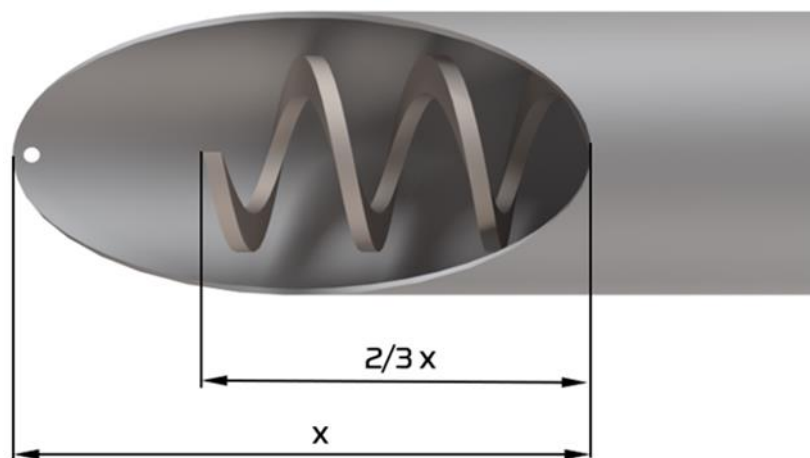

Fig. 6. Feeder spiral installation.
1. Connect the three pipes (1), (2) and (3) using connectors (7) and tighten the fixing screws.
2. Place the mandrel (8) in the shaft hole (9), then screw the spiral (4) onto the mandrel (8) and tighten with the M12 nut with a washer (10);
3. Place the keyway (15) in the groove of the shaft (9). Slide the shaft into the hole in the gearbox (6), and then tighten the M8 bolt with washers (14) to the repositioned shaft;
4. Slide the spiral into the pipe. Use M8x80 bolts (11) and M8 nuts with washers (12) to screw the gears (6) to the pipe flange.
**NOTE: The end of the feeder spiral should be in 2/3 of the length inlet opening (Fig. 6). If the spiral is too long, cut it to the required length.**